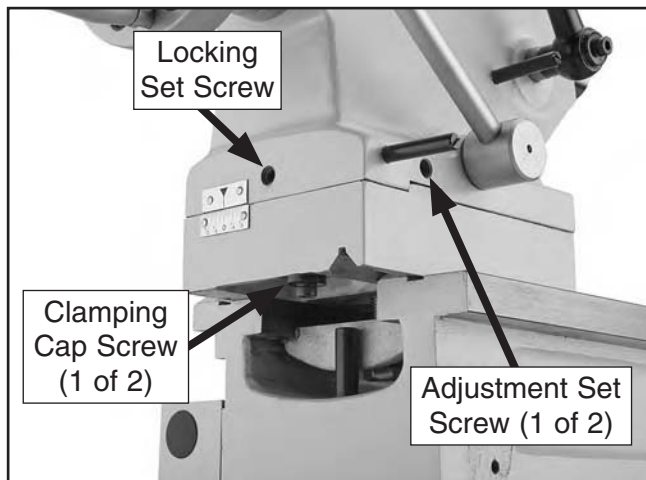

Figure 58. Tailstock offset controls.
1. Loosen the clamping cap screws underneath both ends of the tailstock (see **Figure 58**) to release the clamping pressure between the top and bottom tailstock castings.
2. Loosen the locking set screw shown in **Figure 58**.